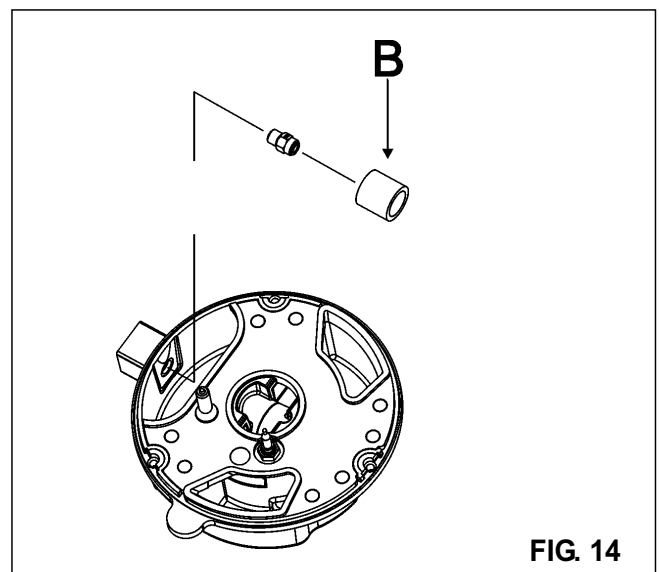

FIG. 14
****Mount with bushing (B) if present (see Fig. 14).**
**Mount with bushing (B) if present (see Fig. 14).